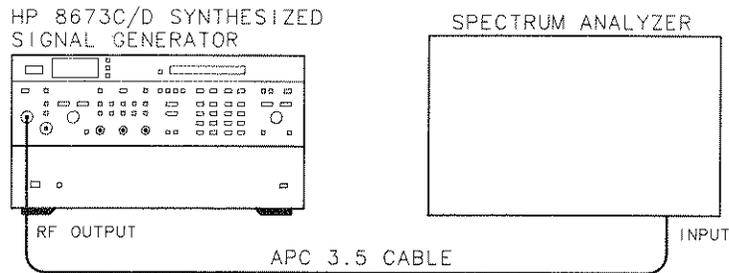

Figure 4-26. Pulse ON/OFF Ratio Test Setup
1. Connect the equipment as shown in Figure 4-26.